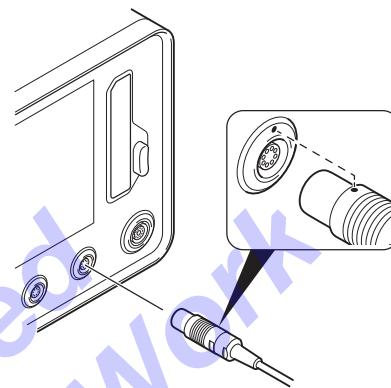

Figure 73 – Wired Foot Pedal Connection
- ALWAYS** use the connector alignment mark(s) to orient and install cable connectors into console port(s) (Figure 73).
1. If using a wired foot pedal, install the foot pedal cable connector into the console foot pedal port (Figure 73).